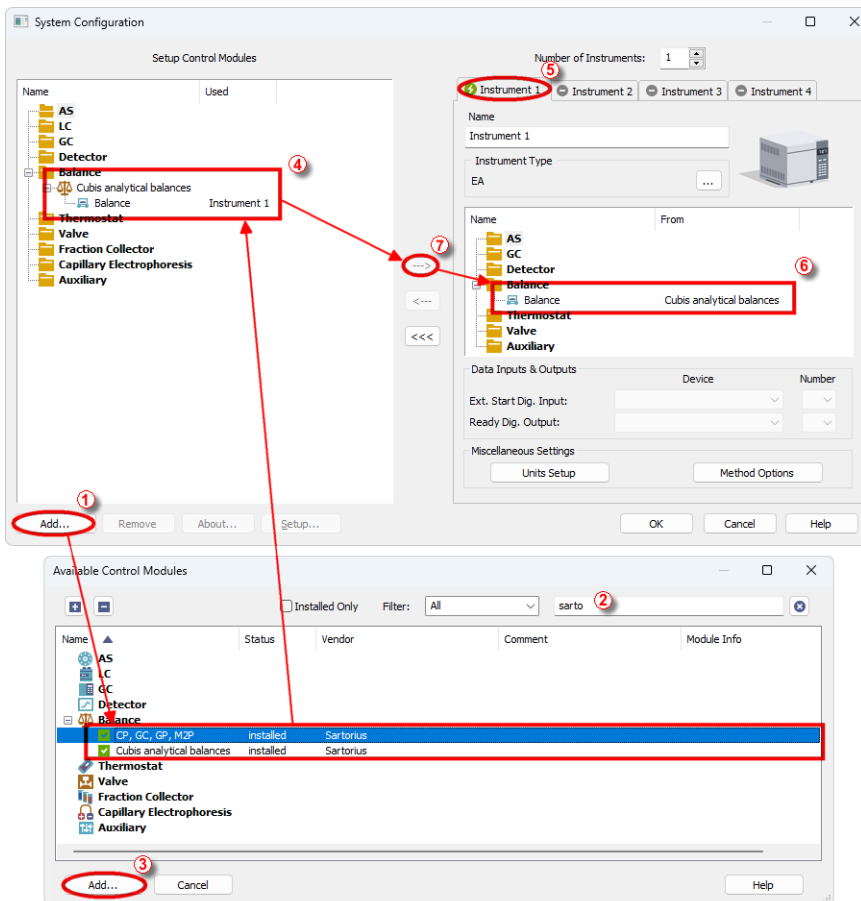

Fig. 2: How to add Sartorius balances
- Press the *Add* button ① (see Fig. 2 on pg. 4.) to invoke the *Available Control Modules* dialog.
- You can specify the searching filter ② to simplify the finding of the driver.
- Select the **Sartorius** balances and press the *Add* ③ button.